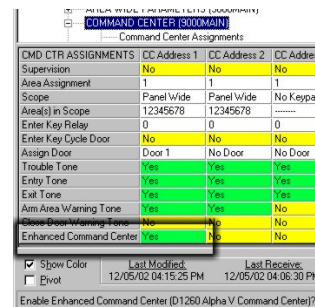

Figure 1: Enhanced Command Center Prompt in RPS
- In the COMMAND CENTER (9000MAIN) section in RPS, this prompt is called *Enhanced Command Center*. Figure 1 assumes the D1260 is assigned to CC Address 1.